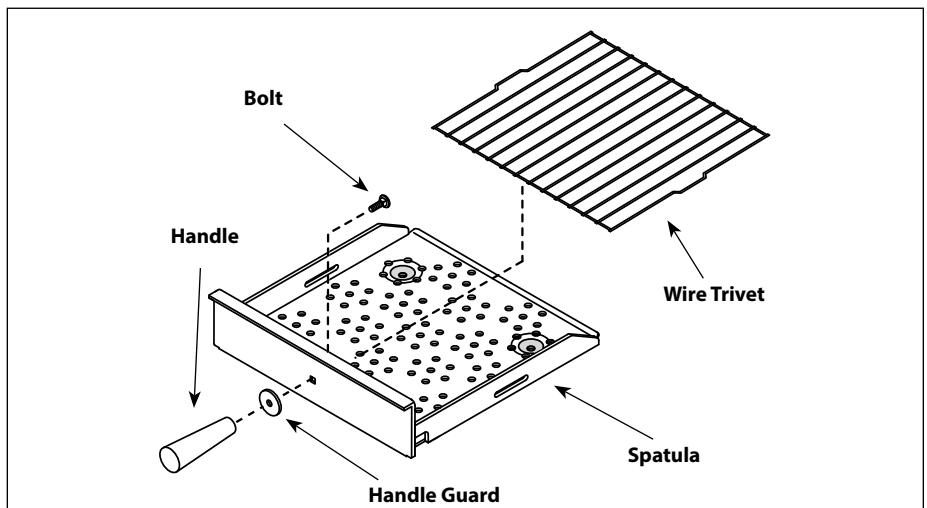

Figure 3. Assembling Handle-MS-250 Only
7. **MS-250 Models:** Assemble the Guard and Mounting Bolt to the Spatula (Figure 3). Then install the Wire Trivet into the side slots on the Spatula.